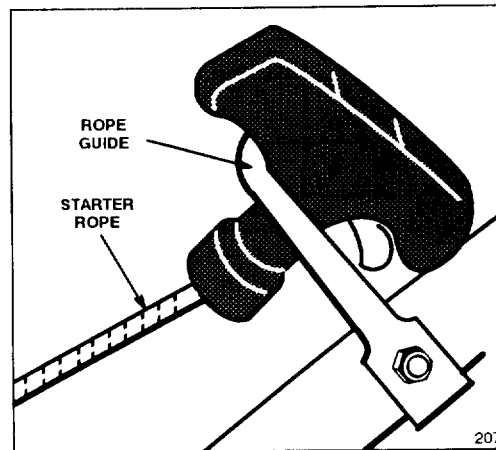

Figure 3
3. STARTER ROPE (Fig. 3)—Pull starter rope through opening in rope guide. By